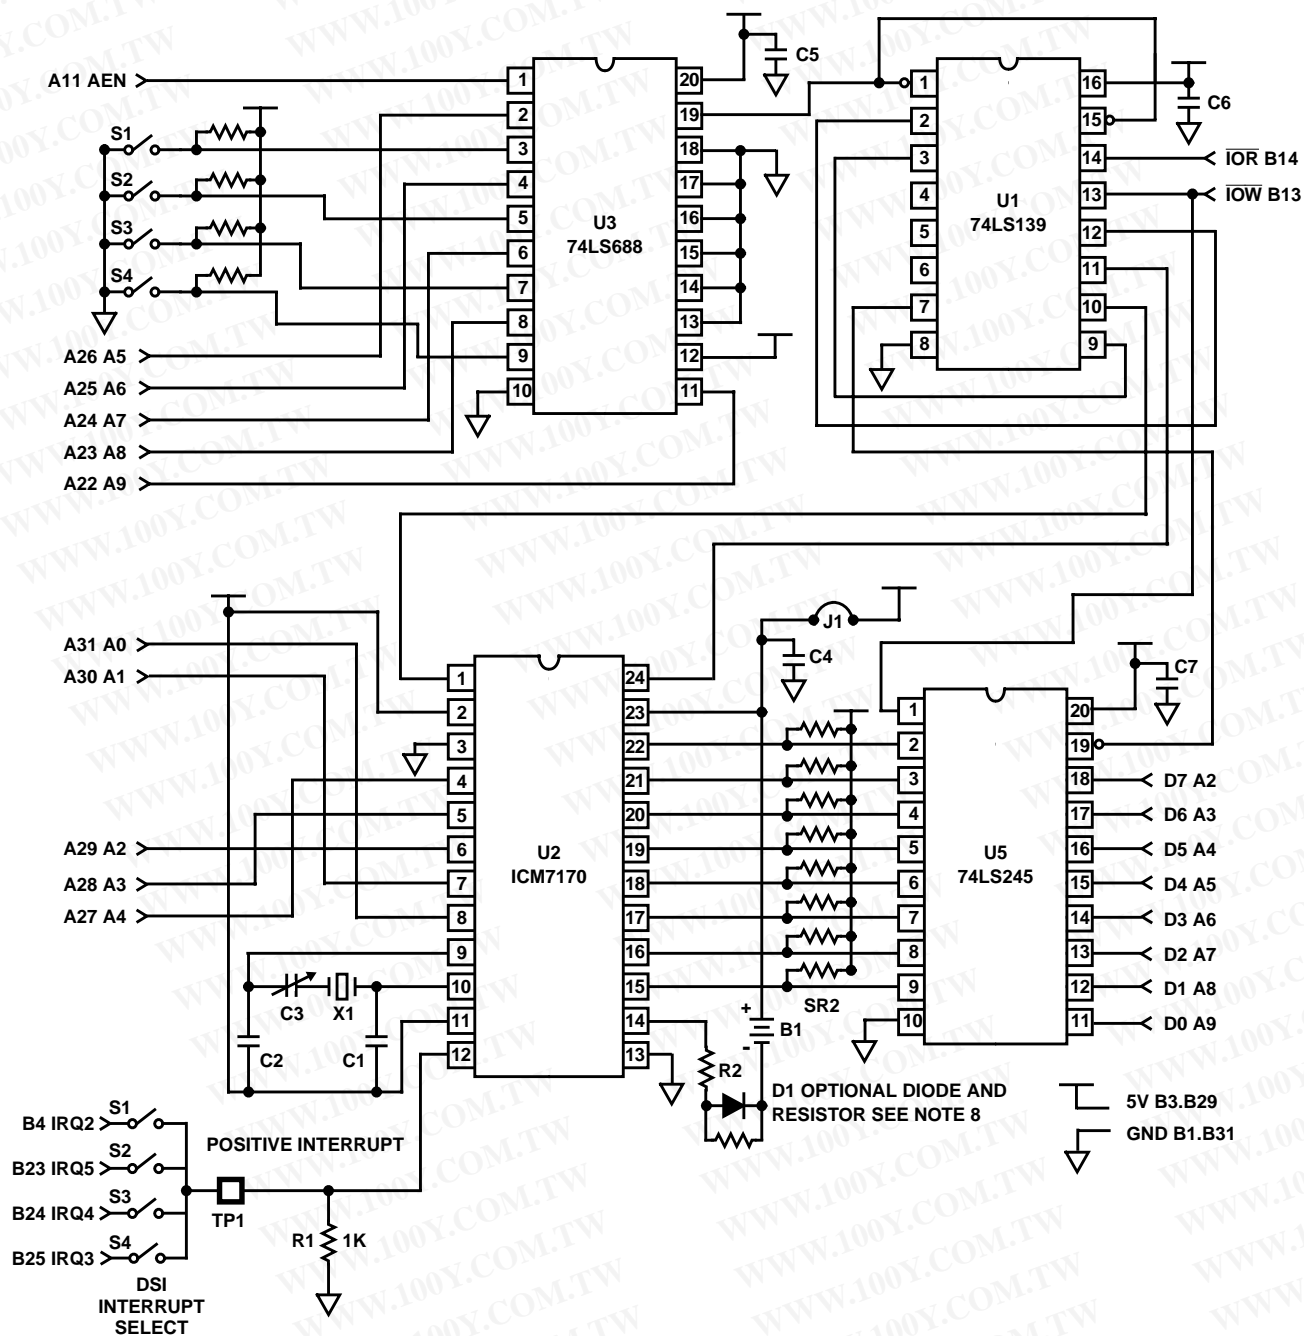

FIGURE 9. IBM PC INTERFACE FOR ICM7170Y
Figure 9 shows the schematic of a board that has been designed to plug into an IBM PC/XT (Note 1) or compatible computer. In this example  $\overline{CS}$  is permanently tied low and access to the chip is controlled by the RD and WR pins. These signals are generated by U1, which gates the IBM's  $\overline{IOR}$  and  $\overline{IOW}$  with a device select signal from U3, which is functioning as an I/O block address decoder. DS1 selects the interrupt priority.
- 8.  $V_{BACKUP}$  DIODE** - Lithium batteries may explode if charged or if discharged at too high a rate. These conditions could occur if the battery was installed backwards or in the case of a gross component failure. A 1N914-type diode placed in series with the battery as shown in Figure 9 will prevent this from occurring. A resistor of 2M $\Omega$  or so should parallel the diode to keep the  $V_{BACKUP}$  terminal from drifting toward the  $V_{SS}$  terminal and shutting off ICM7170 I/O during normal operation.